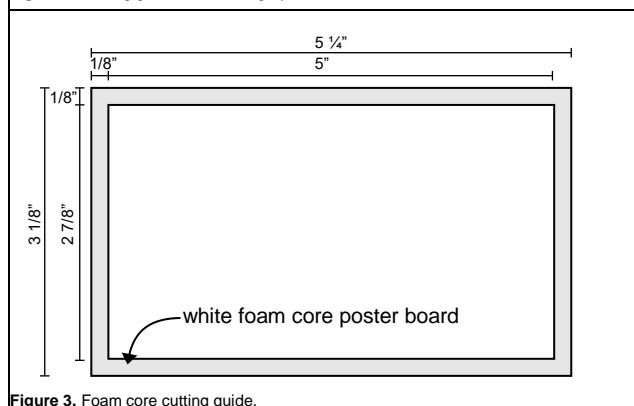

Figure 3. Foam core cutting guide.
6. Use a craft knife to cut a piece of white 3/16" (or thicker) foam core poster board to make a border to go around the "full body" window of the frame as shown in Fig. 3.